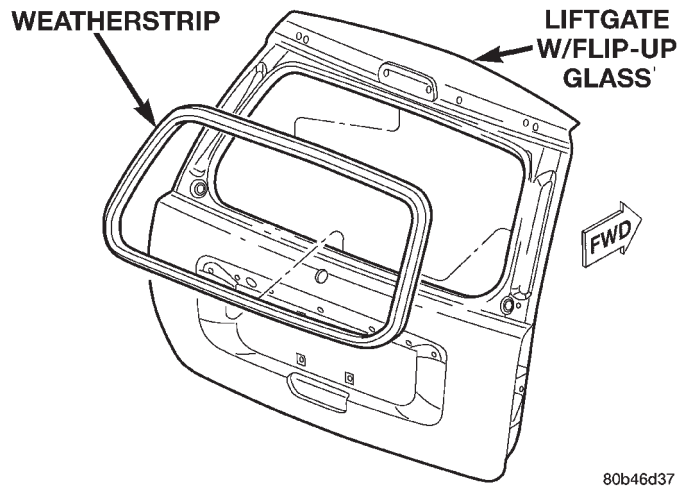

Fig. 77 Flip-up Glass Weatherstrip
- (1) Raise flip up glass.
- (2) Carefully pull the seal away from the flange around the edge of the glass opening (Fig. 77).
- (3) Remove it from the vehicle.